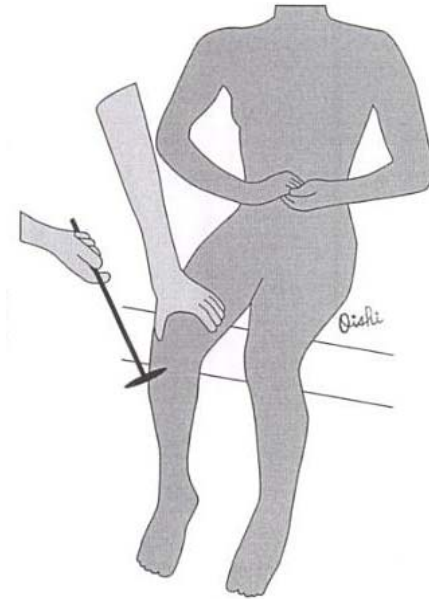

Figure 8: Jendrassik maneuver
3. Have the subject perform the Jendrassik Maneuver. To perform this maneuver, the subject must grip both hands together across their chest and attempt to pull them apart with maximum force while the knee jerk reflex is obtained (Fig. 8).